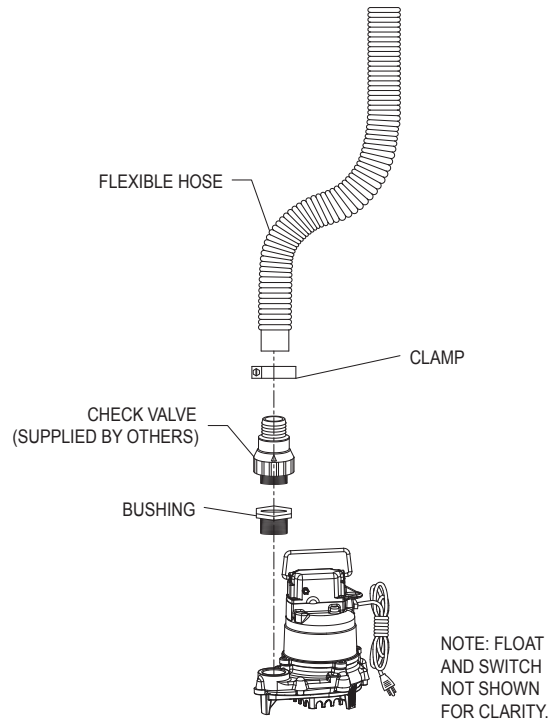

Figure 5.1
- 5.4) If the pump begins to "short cycle" as described in part "C" of the troubleshooting guide, then it will be necessary to install a check valve in the discharge line. This will prevent water from draining from the discharge line back into the pit. Refer to Figure 5.1. If a check valve is installed, the discharge pipe must be protected from freezing. Refer to Step 6 for freezing protection.